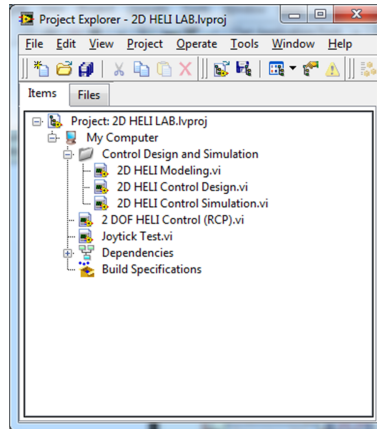

Figure 5.2: LabVIEW project used for the 2 DOF Helicopter system
2. Open the LabVIEW project called *2D HELI LAB.lvproj*, shown in Figure 5.2.